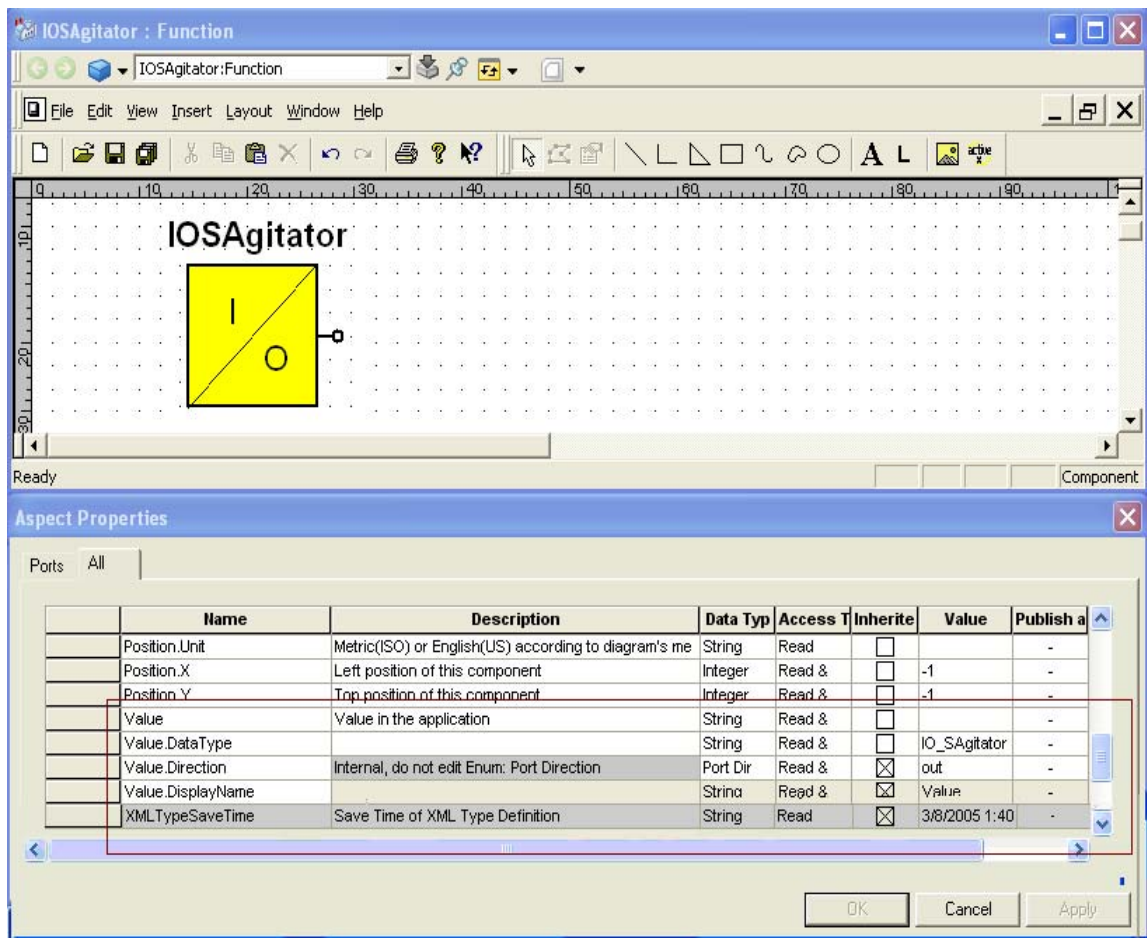

Figure 28. Graphical Symbol for IOSAgitator
14. Update the Aspect Properties dialog, for the values indicated in Figure 28.